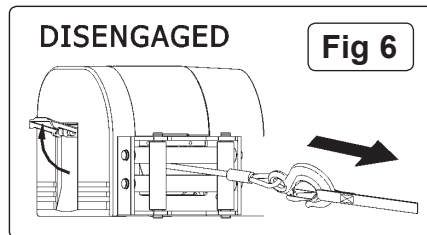

Fig 6
3. To unwind the cable, pull by hand using the hand saver bar and ensure that you wear appropriate safety gloves (fig 6).